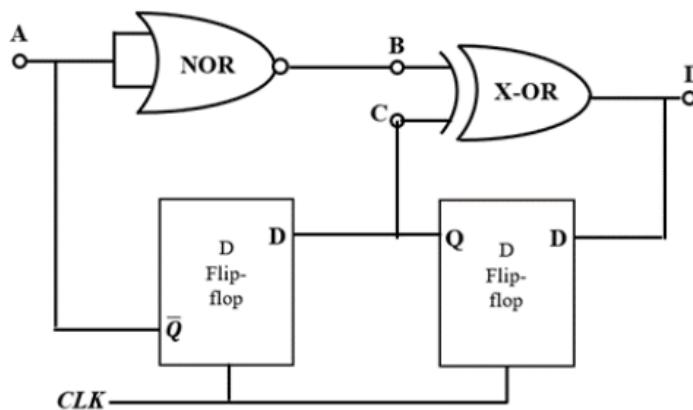

Fig. 5.10
10. Neglecting the delays due to the logic gates in the circuit shown in Fig. 5.10, the decimal equivalent of the binary sequence $[ABCD]$ of initial logic states, which will not change with clock, is _____.